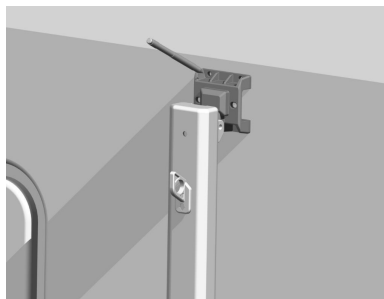
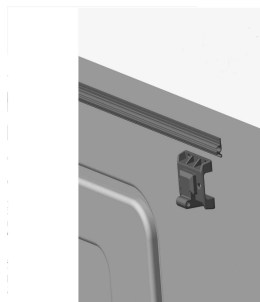

Figure C6
Figure C7
3.2 Take the support arm, use it mark the hole position at a suitable position on the outside of the vehicle (Figure C6), and drill a  $\Phi 5$  installation hole on the vehicle body (Figure C7).